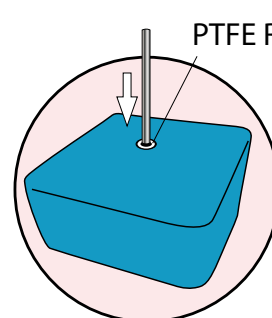

Fig 8.
8. Insert the spigot into the top hole and through all the bases until it hits the ground, place the ptfе rings over the spigot. (see fig 8)